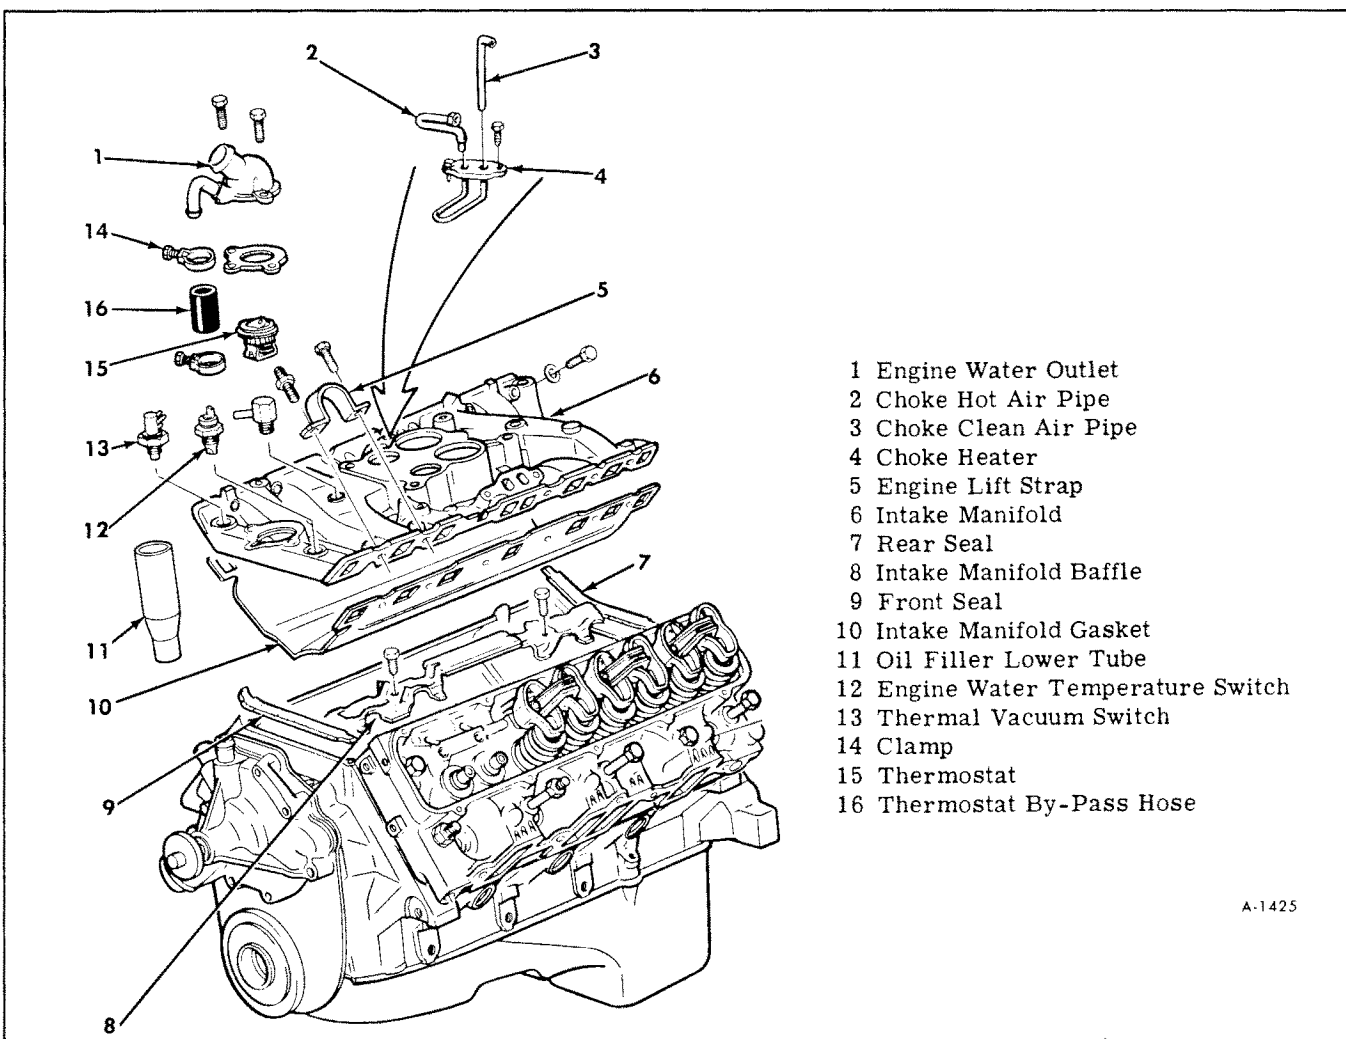

Figure 13-Intake Manifold and Gasket
1. Coat both sides of intake manifold gasket at the sealing area with sealer 1050026 or equivalent. (See figure 13).